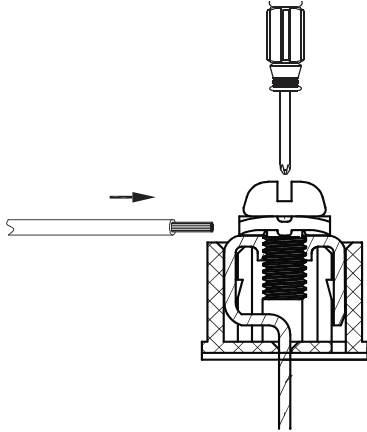

Fig. 9 — Connecting Communication Wire to Outdoor Unit Communication Terminal
- Use a suitable screwdriver to fix communication wire on outdoor unit communication terminal as shown in Fig. 9.